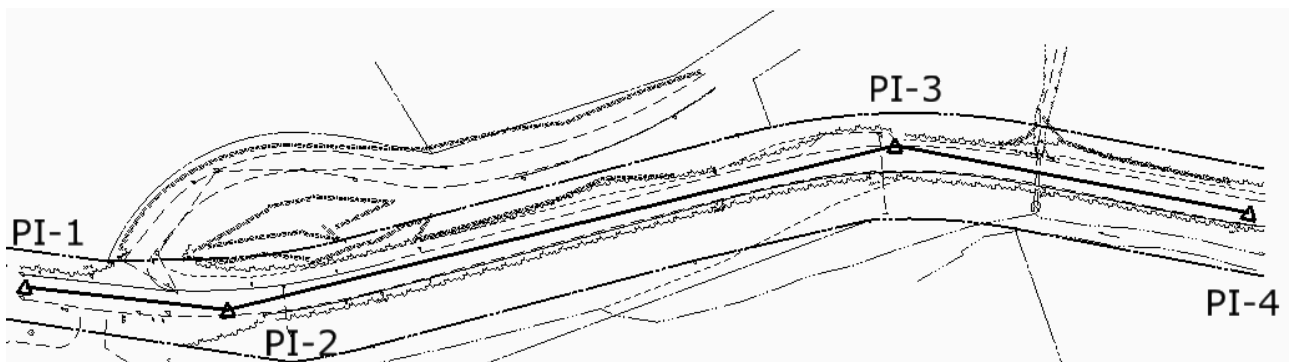

Figure 4-1 MicroStation View of an InRoads Generated Alignment
Proper engineering design of roadways is important and should follow state and federal guidelines. The Connecticut Department of Transportation Highway Design Manual and the AASHTO Geometric Design of Highways and Streets are the main sources for Engineering Design References. For most standard CTDOT roadway designs, the PI method for the layout of horizontal geometry is most often used. This method involves identifying the horizontal tangent line at the **P**oint of **I**ntersection (PI). The original ground survey drawing is used as a reference for locating existing geometry tangents and the PIs to tie in to. Figure 4-1 shows an example of three (3) tangent lines defined by four (4) PIs. PI-1 defines the Point of Beginning (POB) on this alignment, while PI-2 is a true point of intersection. These four points were defined using the insert PI command. Note: This next lab (Lab 5) will focus on the basic InRoads tools used to layout horizontal control geometry.